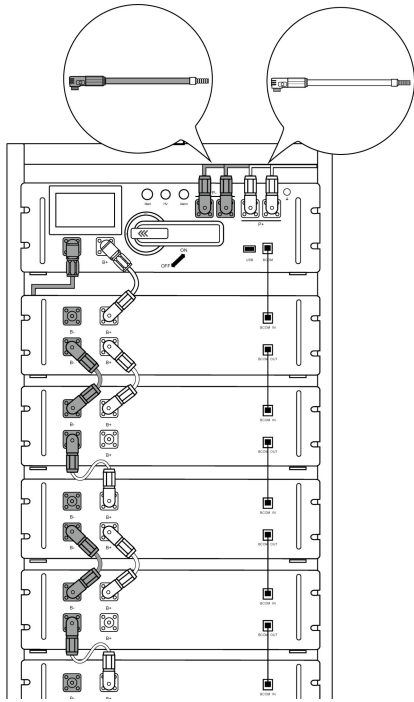
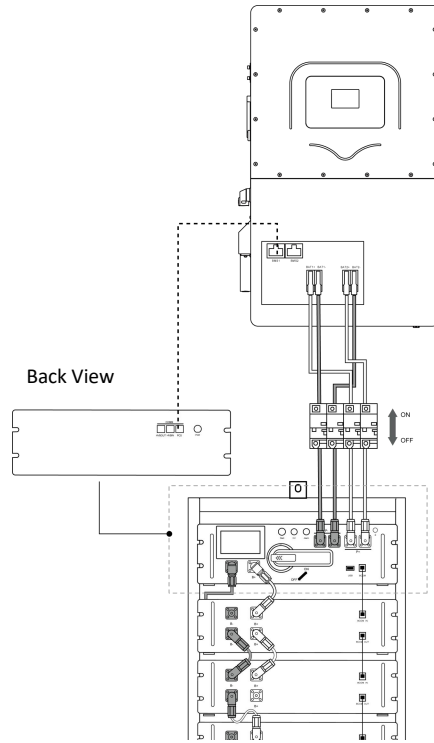

Figure 2-3
Figure 2-4
3. Attach to the PCS: See the figure 2-3 and figure 2-4.